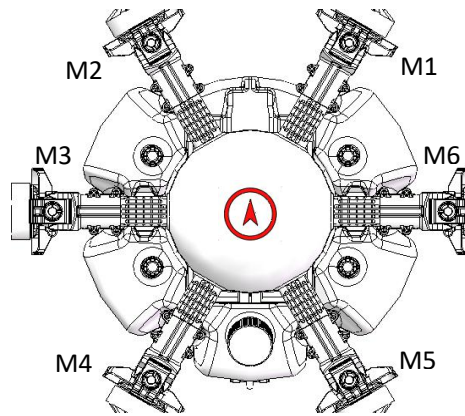

Figure 12
- 6) Install the rest 5 arms as above, it will be completed like Figure 12.